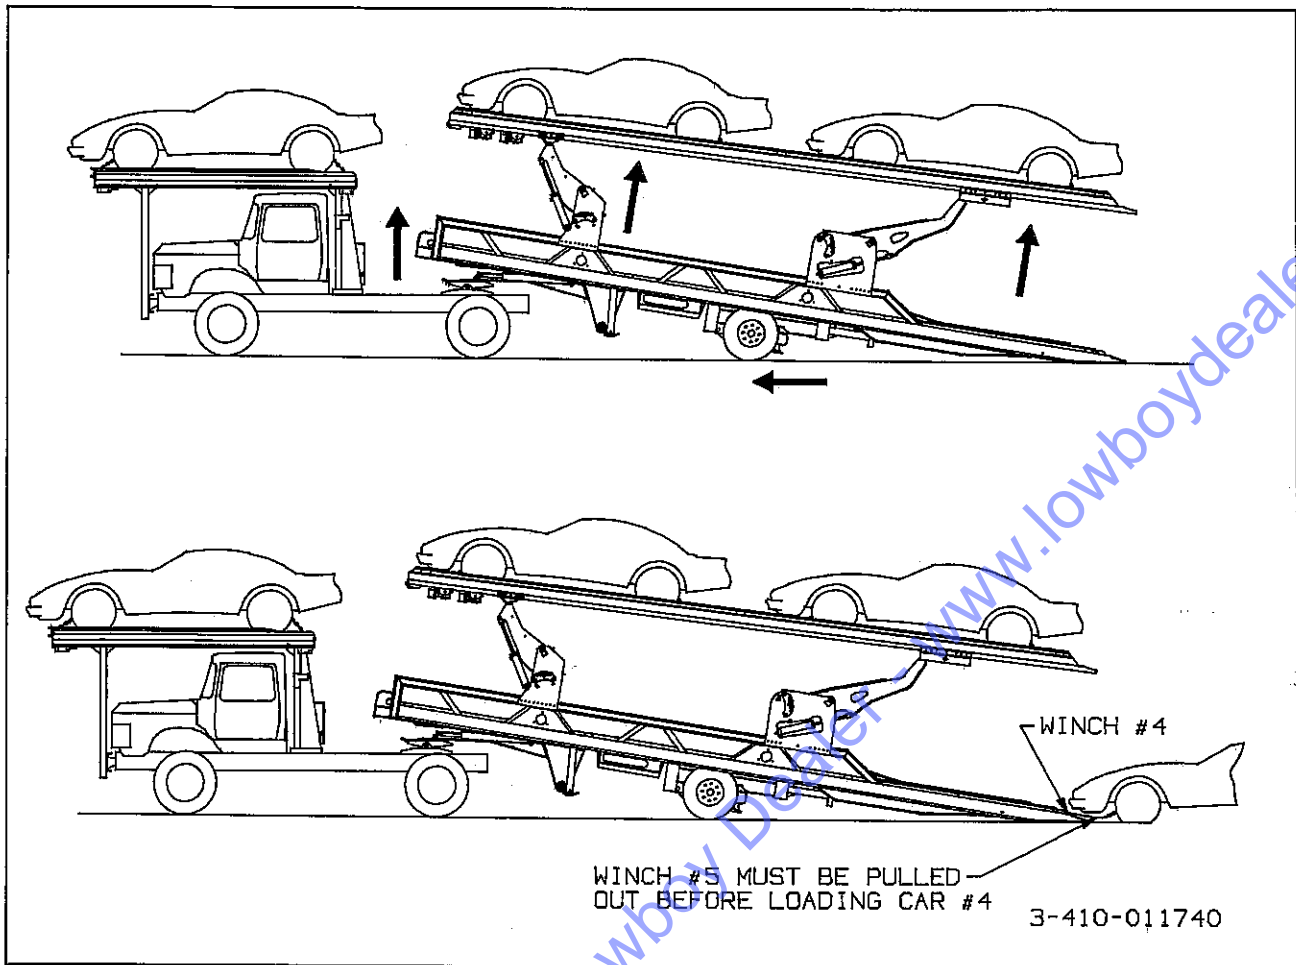

Figure 3-10 Preparing to Load the Lower Deck
h. Unlock and raise the rear arm to an adequate height to allow clearance for loading vehicles on the lower deck. (See Figure 3-10.)
a. Make sure there is adequate clearance between the upper and lower deck to load vehicles on the lower deck. (See Figure 3-10.)